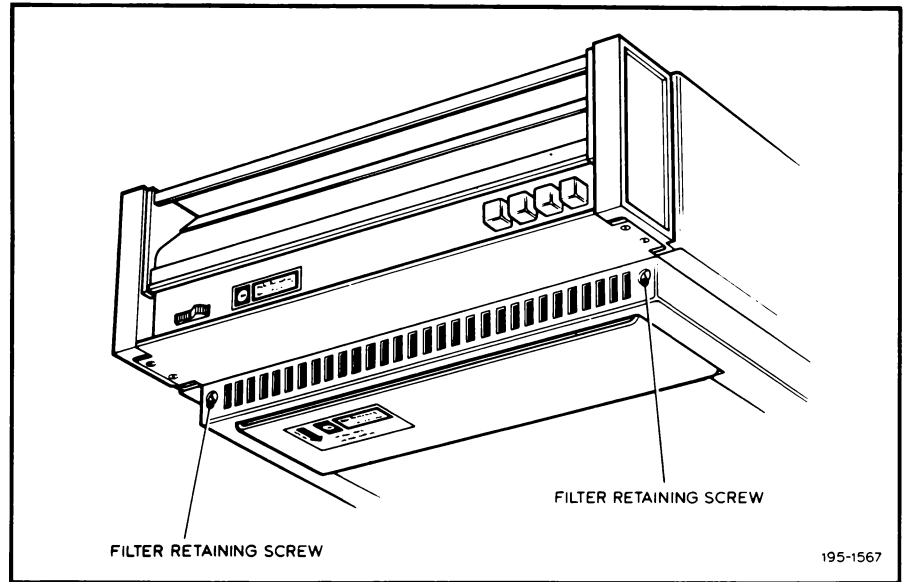

FIGURE 5. 1 AIR FILTER LOCATION
- (b) Remove the two screws, indicated as A and D in figure 5. 3, on each side of the cartridge receiver assembly
- (c) Remove the four screws, indicated as W in figure 5. 3, holding the front of the cartridge receiver to the main base assembly. There are two screws on each side of receiver; the rear bottom cover must be removed to gain access to these screws
- (g) Carry out the cartridge-receiver and base adjustment procedure provided in figure 5. 3